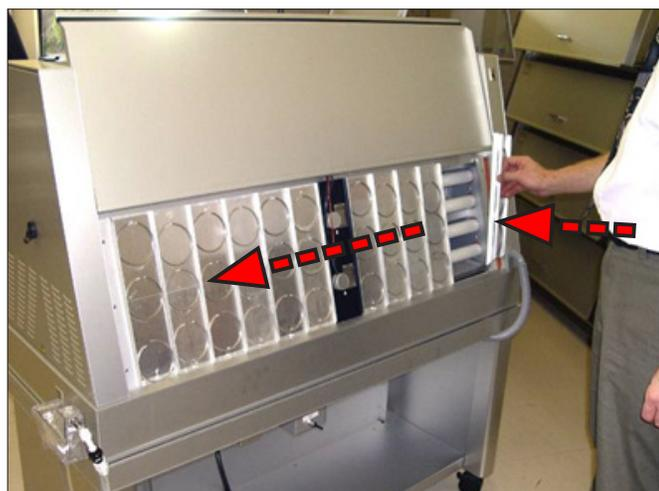

Figure 12.4b: Slide panels to the left, place two panels at right end.
- Slide all the other holders to the left and replace the two that were removed on the right end (Figure 12.4b).